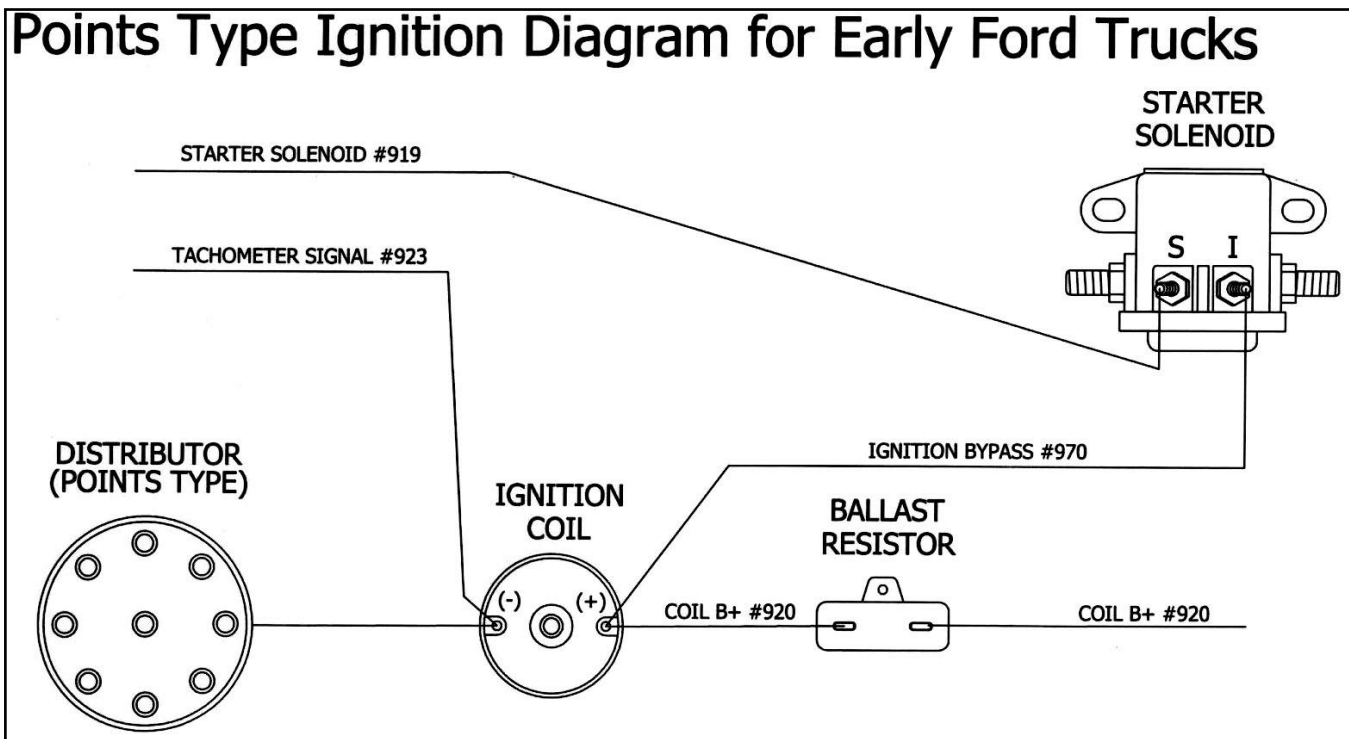

Figure 7-8 Points Style Ignition Diagram
Points: Steps 7.3.1 thru 7.3.3 and Figure 7-8
7.3.1 Connect ENGINE SECTION wire red/green #920 to one side of the ballast resistor. Using the remainder cut off of red/green #920; connect the other side of the ballast resistor to the positive post on the ignition coil. A ballast resistor is included in the parts kit. Be sure to mount it away from anything sensitive to heat, because it gets very hot. **See Figure 7-8.**
7.3.2 Connect ENGINE SECTION wire brown #970 directly to the positive post on the ignition coil or the coil feed side on the ballast resistor. The other end is to be connected to the "I" terminal on the starter solenoid. **See Figure 7-8.**
7.3.3 Connect ENGINE SECTION wire red/blue #919 to the "S" terminal on the starter solenoid. If using a Tachometer, connect ENGINE SECTION wire red/yellow #923 to the negative side of the ignition coil. **See Figure 7-8**